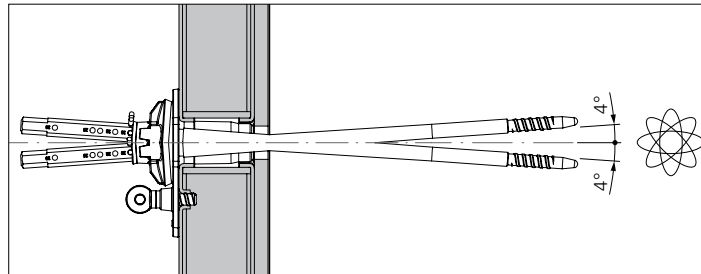

Fig. A5.20
- The conical tie hole allows inclined anchoring of up to 4° on all sides. (Fig. A5.20 + A5.24)